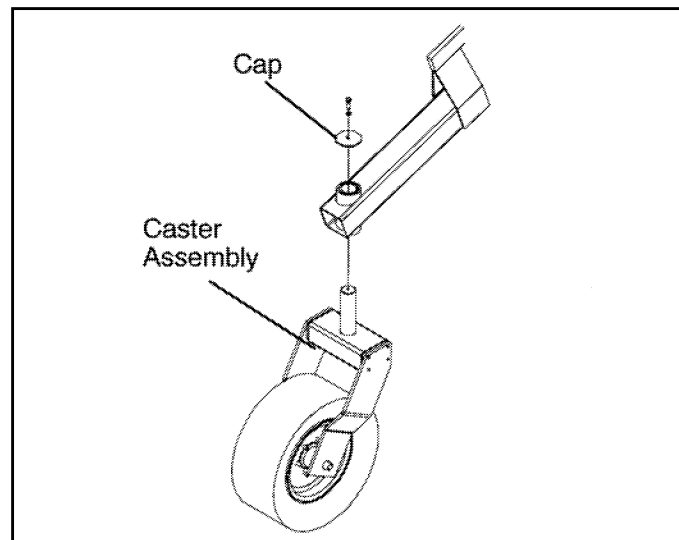

Figure 61 Caster Assembly
1. Remove cap, 1/2 x 1" hex bolt, and lock washer from top of caster assembly as shown in Figure 61.